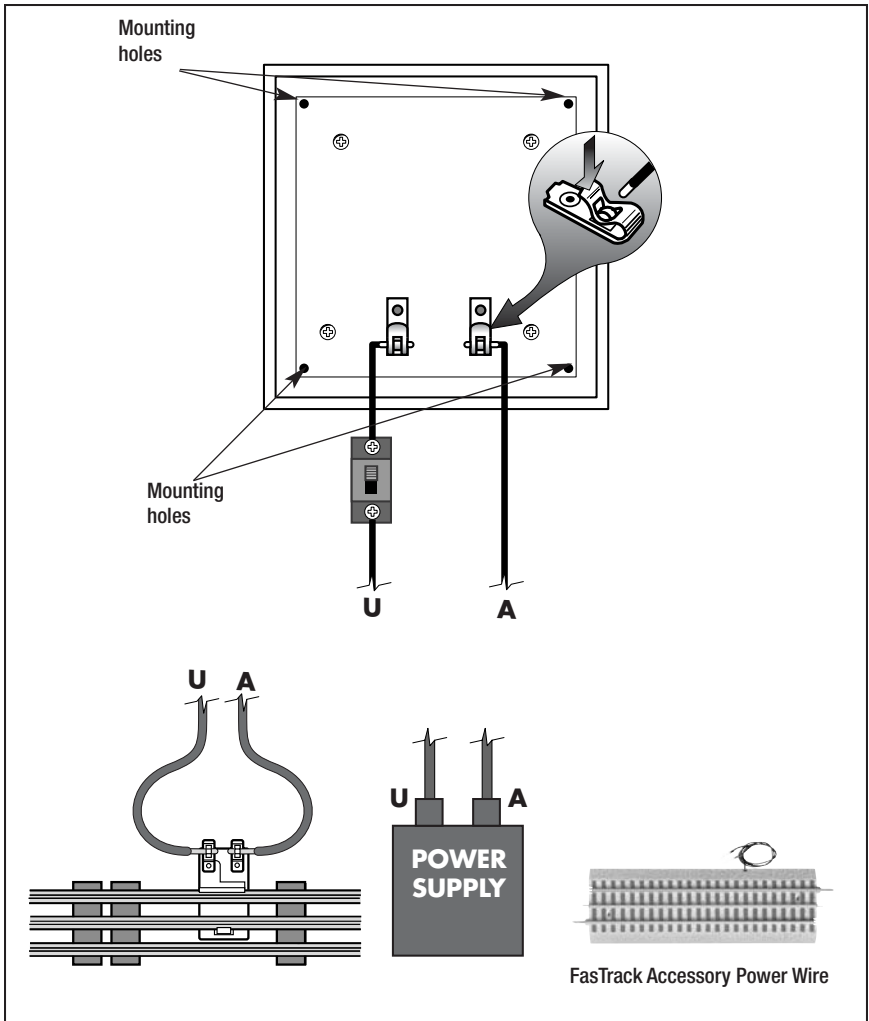

Figure 1. Wiring for conventional operation
Wiring your accessory is the first step in preparing for flight. The Dumbo Pylon will operate best at 12-18 volts (AC), and it can be powered through track power with a Lionel Lockon (available separately, 6-62900), or a FasTrack Accessory Power Wire (available separately, 6-12053), **OR** through an accessory power supply. We recommend that you choose a power supply that will allow you to increase or decrease the voltage to the accessory. Changing the voltage allows you to control the speed at which the figure circles the pylon. Figure 1 on page 4 illustrates the following procedure.